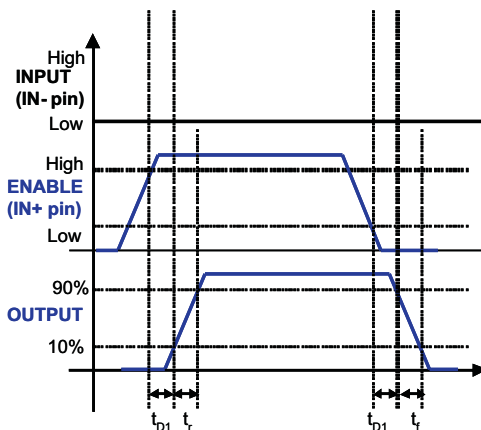
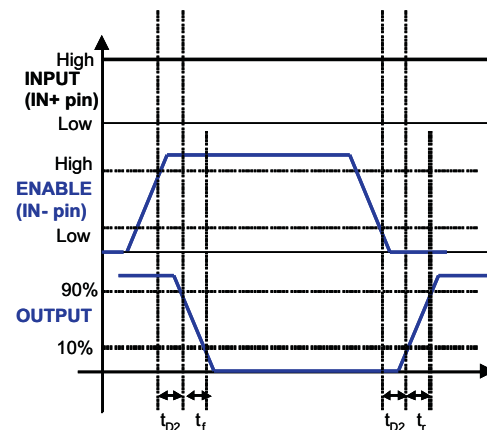
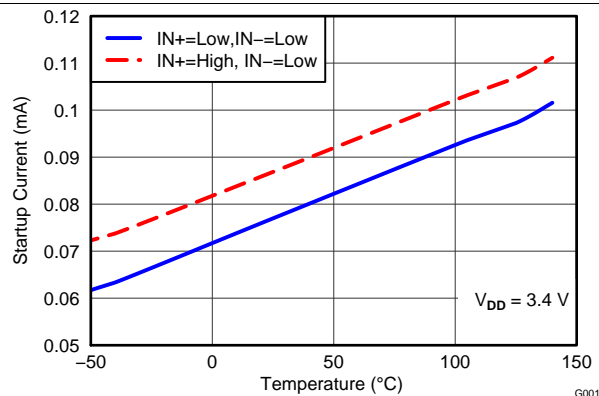
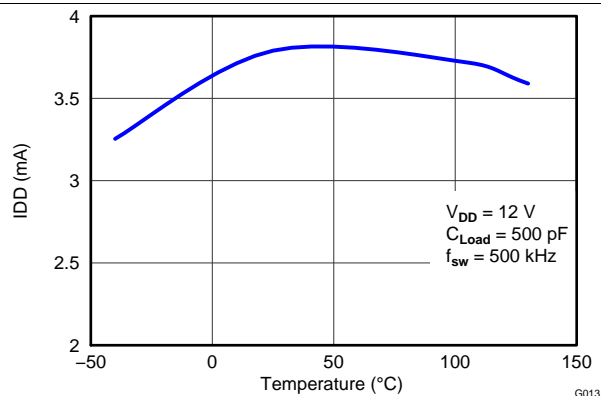

**Figure 1. Non-Inverting Configuration**
**Figure 2. Inverting Configuration**
**Figure 3. Enable and Disable Function Using IN+ Pin**
**Figure 4. Enable and Disable Function Using IN– Pin**
(1) See timing diagrams in Figure 1, Figure 2, Figure 3 and Figure 4.